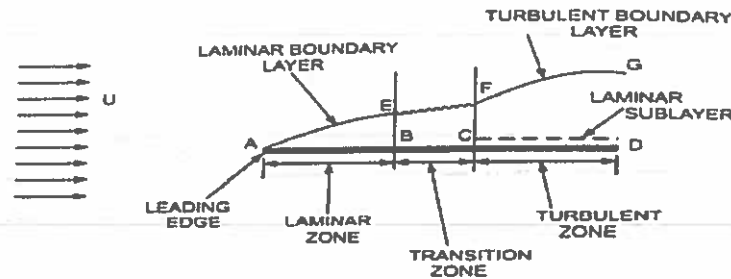

Fig. 13.2 Flow over a plate.
13.2.1 Laminar Boundary Layer. For defining the boundary layer (*i.e.*, laminar boundary layer or turbulent boundary layer) consider the flow of a fluid, having free-stream velocity (U), over a smooth thin plate which is flat and placed parallel to the direction for free stream of fluid as shown in Fig. 13.2. Let us consider the flow with zero pressure gradient on one side of the plate, which is stationary.
The velocity of fluid on the surface of the plate should be equal to the velocity of the plate. But plate is stationary and hence velocity of fluid on the surface of the plate is zero. But at a distance away from the plate, the fluid is having certain velocity. Thus a velocity gradient is set up in the fluid near the surface of the plate. This velocity gradient develops shear resistance, which retards the fluid. Thus the fluid with a uniform free stream velocity (U) is retarded in the vicinity of the solid surface of the plate and the boundary layer region begins at the sharp leading edge. At subsequent points downstream the leading edge, the boundary layer region increases because the retarded fluid is further retarded. This is also referred as the growth of boundary layer. Near the leading edge of the surface of the plate, where the thickness is small, the flow in the boundary layer is laminar though the main flow is turbulent. This layer of the fluid is said to be laminar boundary layer. This is shown by AE in Fig. 13.2. The length of the plate from the leading edge, upto which laminar boundary layer exists, is called laminar zone. This is shown by distance AB . The distance of B from leading edge is obtained from Reynold number equal to 5×10^5 for a plate. Because upto this Reynold number the boundary layer is laminar. The Reynold number is given by $(R_x) = \frac{U \times x}{\nu}$
13.2.2 Turbulent Boundary Layer. If the length of the plate is more than the distance x , calculated from equation (13.1), the thickness of boundary layer will go on increasing in the downstream direction. Then the laminar boundary layer becomes unstable and motion of fluid within it, is disturbed and irregular which leads to a transition from laminar to turbulent boundary layer. This short length over which the boundary layer flow changes from laminar to turbulent is called transition zone. This is shown by distance BC in Fig. 13.2. Further downstream the transition zone, the boundary layer is turbulent and continues to grow in thickness. This layer of boundary is called turbulent boundary layer, which is shown by the portion FG in Fig. 13.2.
13.2.3 Laminar Sub-layer. This is the region in the turbulent boundary layer zone, adjacent to the solid surface of the plate as shown in Fig. 13.2. In this zone, the velocity variation is influenced only by viscous effects. Though the velocity distribution would be a parabolic curve in the laminar sub-layer zone, but in view of the very small thickness we can reasonably assume that velocity variation is linear and so the velocity gradient can be considered constant. Therefore, the shear stress in the laminar sub-layer would be constant and equal to the boundary shear stress τ_0 . Thus the shear stress in the sub-layer is